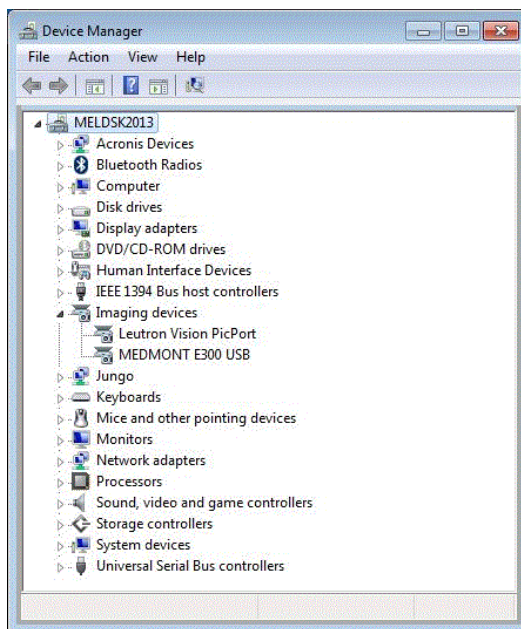

Figure 4. Device Manager showing a successful connection to the Medmont E300 Corneal Topographer
3. Ensure that the item MEDMONT E300 USB appears in the list of imaging devices as per the screen in Figure 4.